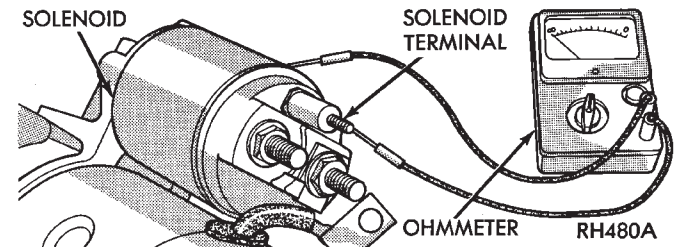

Fig. 19 Continuity Test Between Solenoid Terminal and Solenoid Case —Bosch
- (3) Check for continuity between solenoid terminal and solenoid housing (Fig. 19 or 20). Continuity should be detected. If continuity is detected, solenoid is good.
- (4) If continuity is not detected in either test, solenoid has an open circuit and is defective.